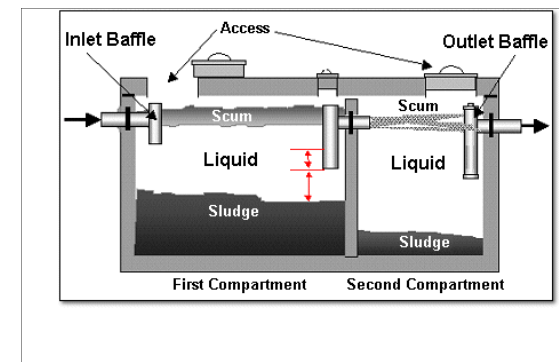

Figure 4. Inside a Septic Tank
A. Inside the septic tank, wastewater settles and is separated into three layers: the scum layer on top, made up of greases and other floating substances; the liquid layer in the middle; and the sludge layer at the bottom, formed by the heaviest components of the sewage (see Figure 4).